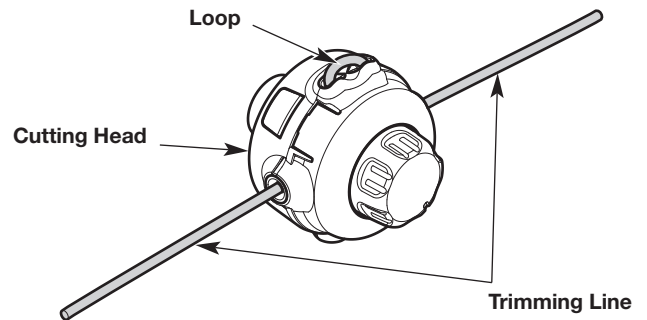

Fig. 33
4. Pull the ends of the line until the line is tight against the cutting head. Make sure the ends of the line are of equal length (Fig. 33). If one end is longer than the other, push the longer end back through the cutting head partway and pull the shorter end out. If necessary, repeat this process until both ends are of equal length.
5. Press the exposed loop of trimming line until it is tight against the cutting head (Fig. 33).